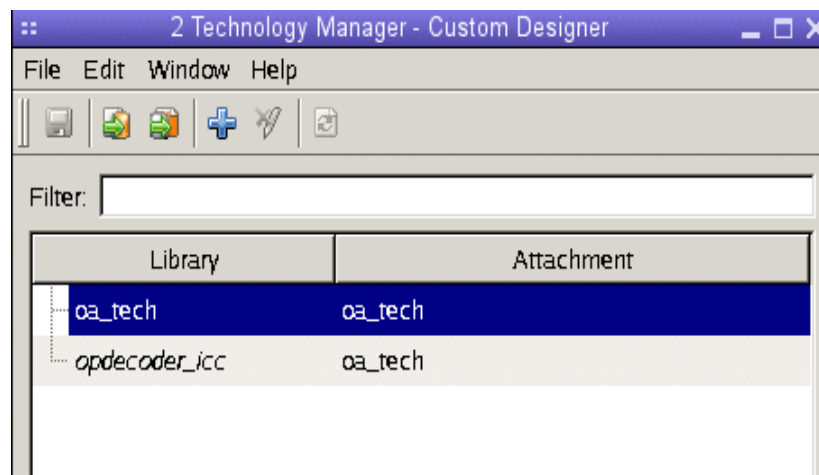

Figure 31
1. Set this `oa_tech` library as tech reference for `opdecoder_icc`, as shown in Figure 31.